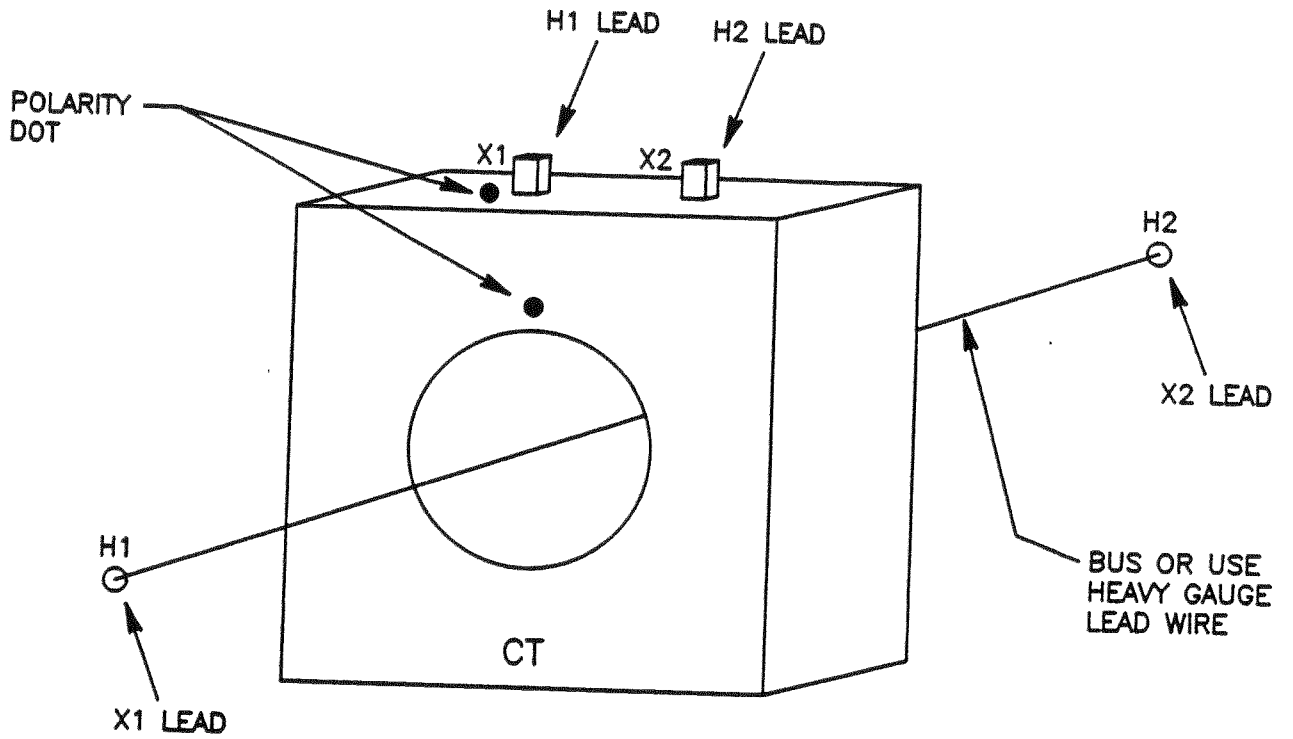

Figure 8: Setup for Testing Unmounted Current Transformer
2. Use two conductor H and X test leads and connect as follows and as shown in Figure 8.